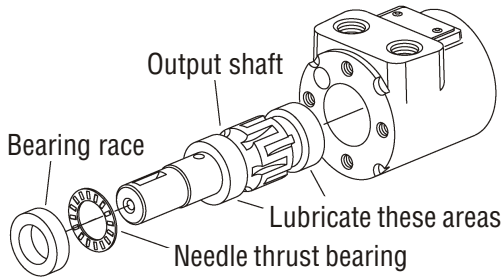

Figure 5-27, Output Shaft
8. Lubricate the output shaft with hydraulic oil, then install the output shaft into the housing. (Figure 5-27)